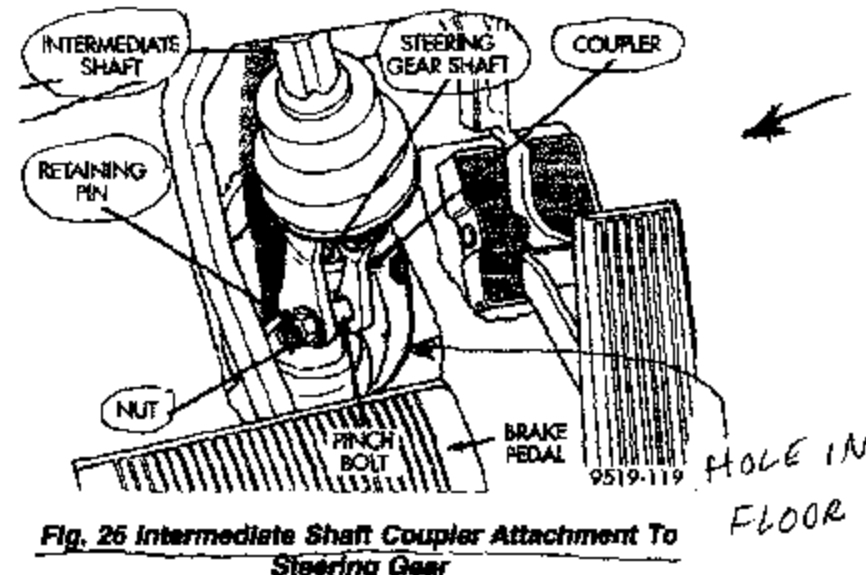

Fig. 26 Intermediate Shaft Coupler Attachment To Steering Gear
(2) Siphon as much power steering fluid as possible from the power steering fluid reservoir.
(3) Raise the vehicle using a frame contact type hoist or supported as required using jack stands. See Hoisting in the Lubrication and Maintenance group of this service manual for the required hoisting or jacking procedure to be used for this vehicle.
(4) Remove the left front wheel/tire.
(5) Remove the front fascia and the grill as an assembly from the vehicle. Refer to Front Bumper/Fascia in Group 13 of this service manual for the proper procedure.
(6) Remove the hose clamps (Fig. 26) from the power steering fluid hoses. Drain power steering fluid from the hoses and the power steering fluid cooler.